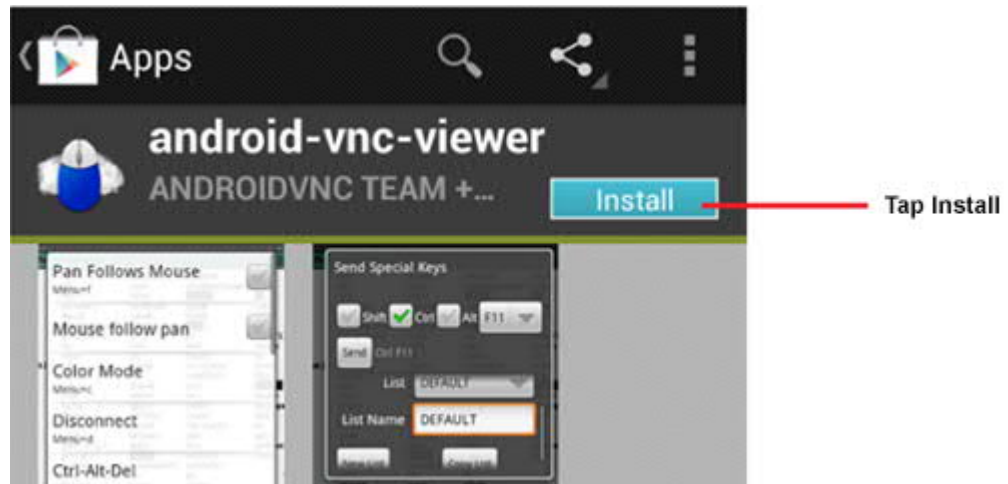

Figure 67: Android-vnc-viewer Install Screen
9. Install the VNC software by searching and installing from the Google Play store. Search for *Android-vnc-viewer* and install the application by tapping on the Install button. (Figure 67)